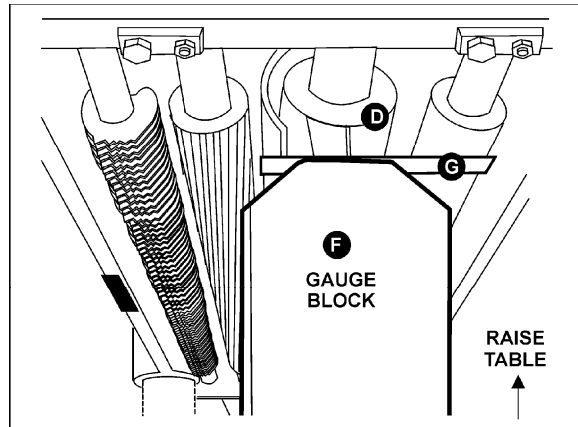

Figure 26
3. Place the gauge block (F, Figure 26) on the table directly beneath the cutterhead (D, Figure 26).
4. Using a 0.020" (0.5mm) feeler gauge (G, Figure 26) placed on top of the gauge block, raise the work table until the knife just touches the feeler gauge when the knife is at its lowest point. Do not move the work table any further until the outfeed roller is adjusted.